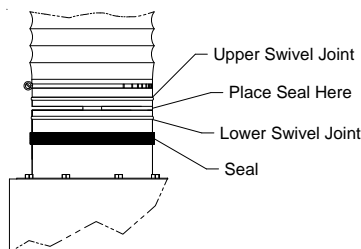

Fig. 2
3. Make sure that the seal is pulled up from the lower swivel joint to cover the gap between the lower and upper swivel joints (fig. 2).